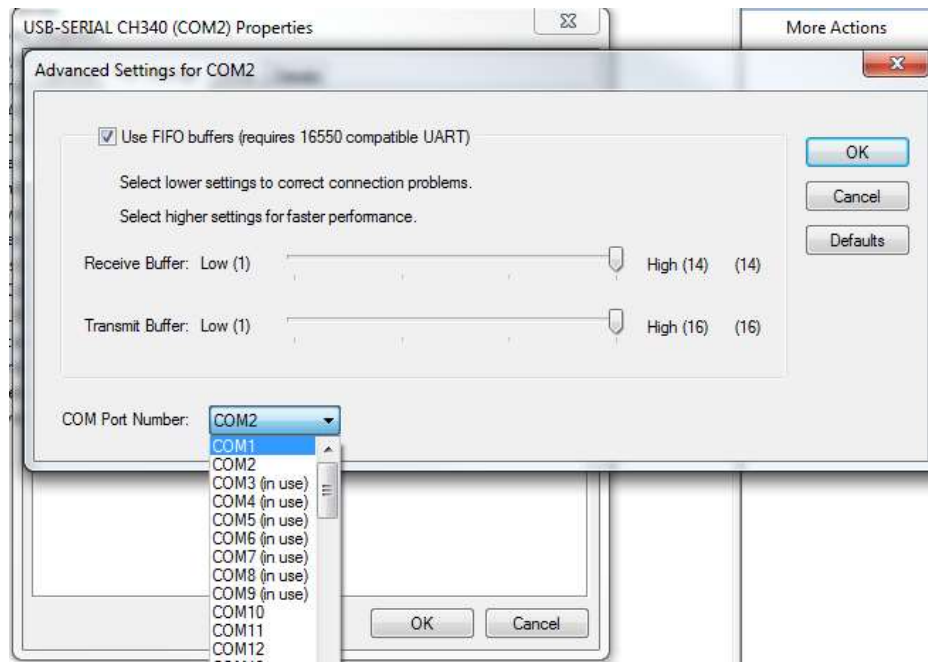

Fig.4
5. Use the **COM Port Number** *drop-down box* to select **COM1** as per Fig.4. Select **OK** to confirm these settings and then exit the **Device Manager**.